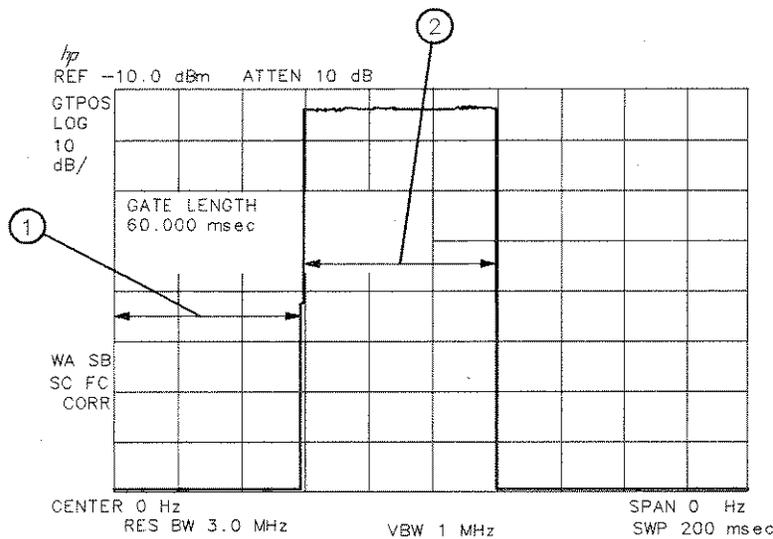

Figure 4-32. Gate On
3. Press **Previous Menu**, **GATE ON OFF** (so that **ON** is underlined). See Figure 4-32.
Item	Description of Items in Figure 4-32